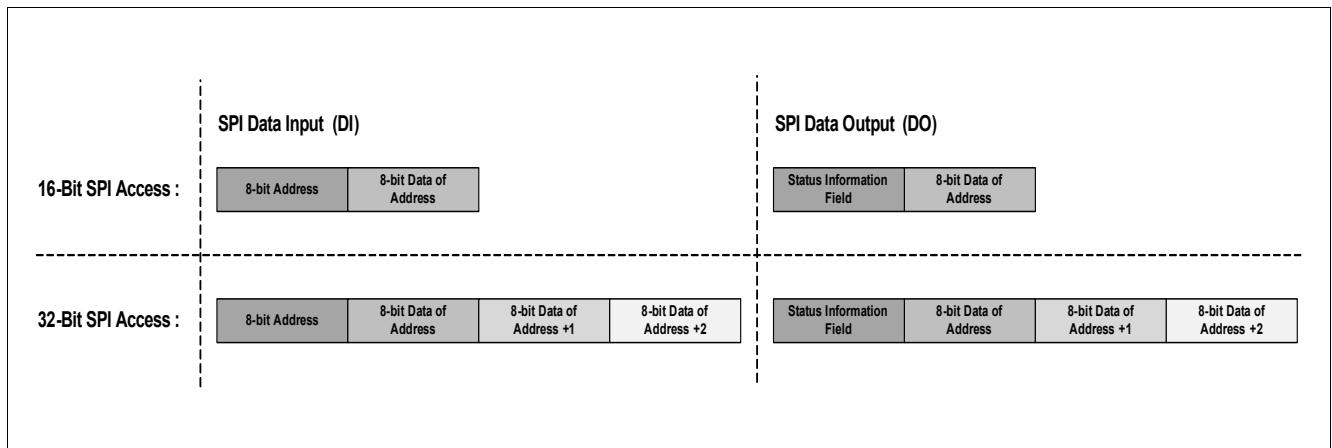

Figure 46 Data access for 16- and 32-bit SPI commands
The TLE9471-3ES is supporting multi-slave operation in full-duplex mode with 16-bit and 32-bit data access (see also Figure 46).
The operation of the 16-bit and 32-bit SPI data access is shown in Figure 46.
- The numbering of following bit definitions refers to the data byte and correspond to the bits D0...D7 and to the SPI bits 8...15. In case of 32-bit SPI commands, the data bytes from the next valid address are accessed (see also Figure 46).